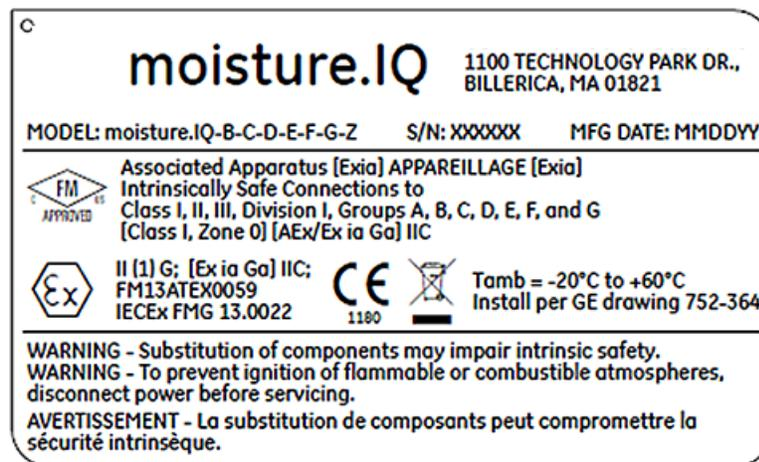
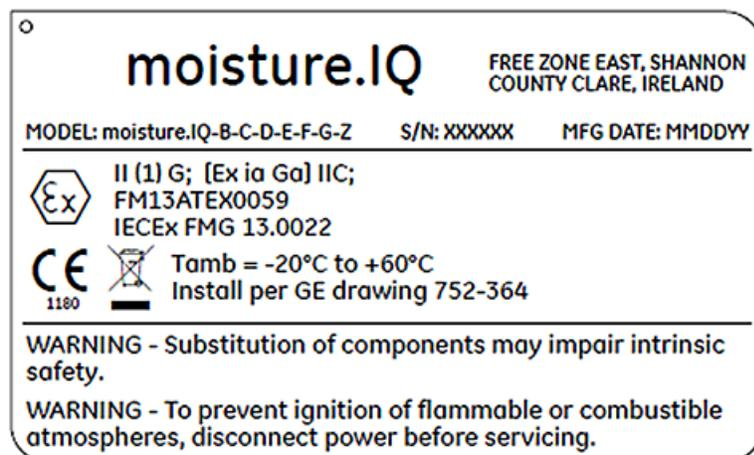

Figure 13: Rack/Bench/Panel Label from Billerica, USA (Dwg. 442-1492-01)
Figure 14: Rack/Bench/Panel Label from Shannon, Ireland (Dwg. 442-1492-02)
- Markings shall appear on the product as shown in *Figure 13* and *Figure 14* below for the rack/bench/panel version, in *Figure 15* and *Figure 16(B)* on page 9 for the explosion-proof version, in *Figure 17(B)* on page 9 and *Figure 18(B)* on page 10 for the stainless steel weather-proof version and in *Figure 19* and *Figure 20(B)* on page 10 for the fiberglass weather-proof version.